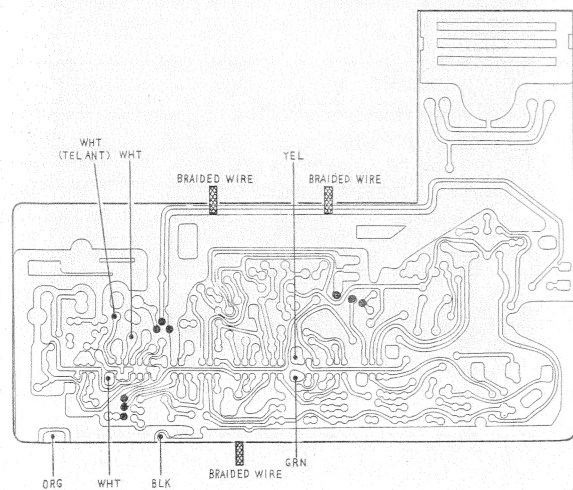

Fig. 2-6. Cp circuit board removal
- 4. Unsolder the seven leads and the three braided wires in Fig. 2-6.